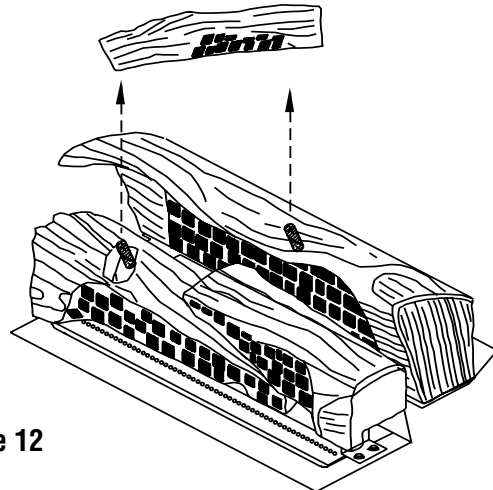

Figure 12
- 5) The remaining straight twig has two holes in the bottom. Position the twig so the black and white charring is to the front and slide the holes over the peg in the left front log and the peg in the rear log (Figure 12). It may be necessary to roll the top of the rear log slightly forward to put this twig on the pegs.